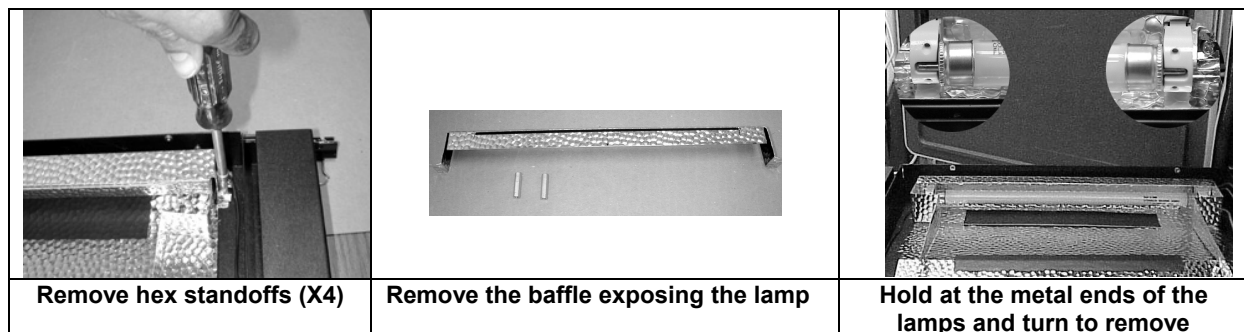

Figure 5.2
8. Remove lamps by holding the metal part of the lamps with the tip of your fingers and turning them in a rotating movement and by pulling them out of the socket. (See Fig 5.2)